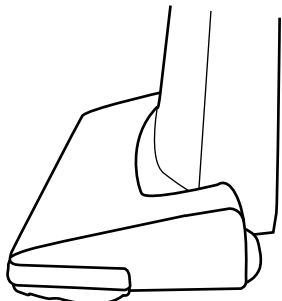

Fig. 2
2. Upright position - when cleaning tools are being used or for storage (Fig. 2). Handle locks in this position.